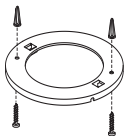
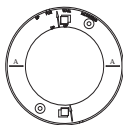

FIGURE 4
FIGURE 5
3. After selecting the proper smoke alarm location as described in section 1, attach the mounting plate to the ceiling as shown in figure 4. For wall mounting see figure 5. Place mounting plate on the wall. Be sure the "UP FOR WALL MOUNTING" text and arrow are facing up. Use the screws and anchors provided to secure the mounting plate (use 3/16" drill bit for anchor holes).